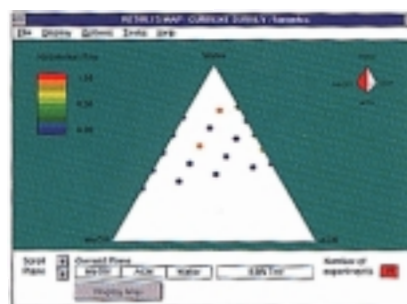

Figure 5. Resolution map quickly summarizes numerous runs in an easy to interpret format
**Intuitive map for rapid interpretation of results.** After the run, survey results are displayed as a color resolution map (Figure 5). Each experiment in a survey is evaluated based on the number of detected peaks and the resolution of the two chromatographic peaks, which are least separated the critical pair. The resolution value can vary between 0 (co-elution) and 1.0 (baseline separation). The “best separation” command in the Turbo Method Development finds the optimum chromatogram in the survey automatically — it has the maximum number of peaks, the best critical resolution and the shortest run time.